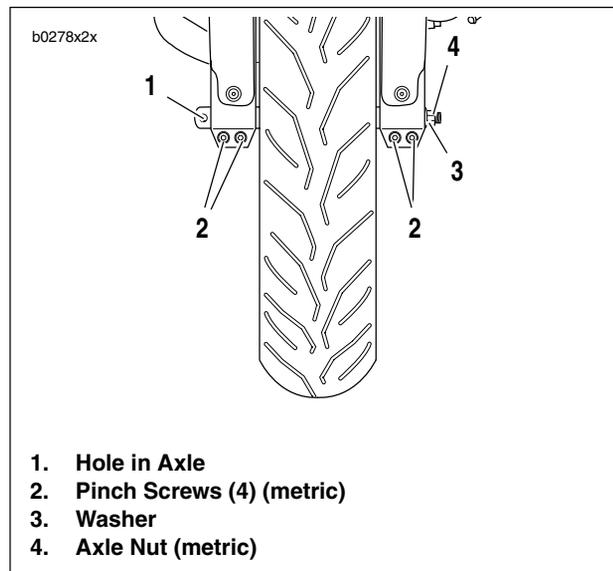
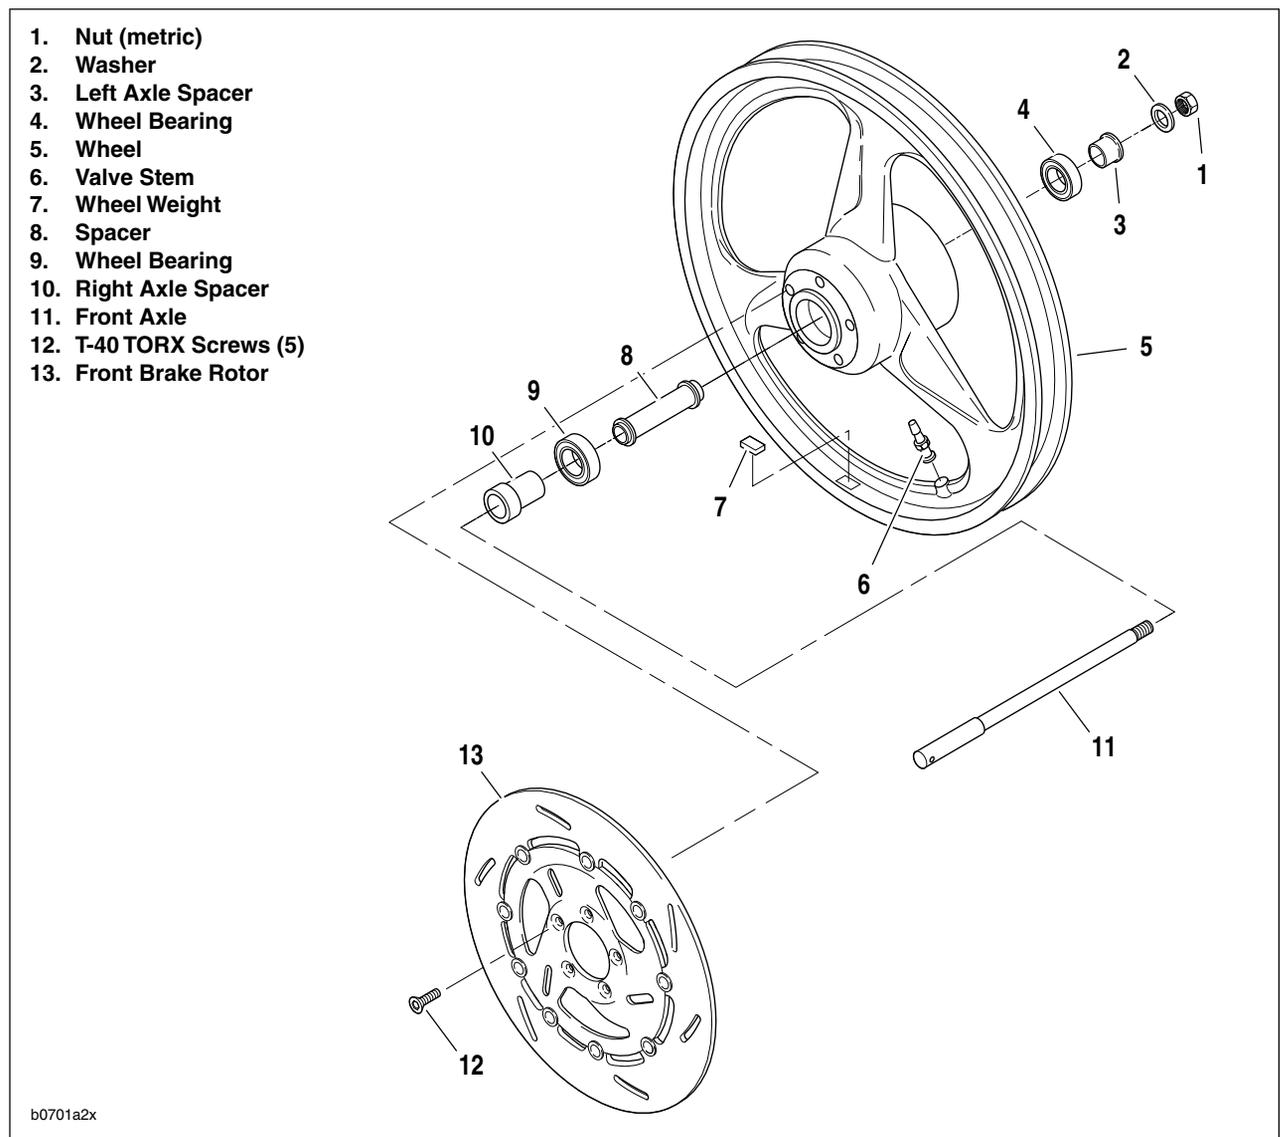

Figure 2-5. Front Wheel Mounting
Figure 2-6. Front Wheel
3. See Figure 2-5. Insert screwdriver/rod through hole in axle (1). Loosen front axle nut (4) (metric).
4. Loosen all four pinch screws (2) (metric).
5. Remove front axle nut (4) and washer (3). Pull front axle out of wheel hub while supporting front wheel.
6. See Figure 2-6. Remove spacer (3) from left side of wheel hub. Remove front wheel.
1. See Figure 2-6. Move wheel to bench area. On brake rotor side of wheel, remove right axle spacer (10).
3. See Figure 2-5. Remove five T-40 TORX screws (12) to detach front brake rotor (13) from wheel hub. Discard T-40 TORX screws.
1. See Figure 2-6. Install spacer (8).
3. On the side of the wheel opposite the brake rotor insert left axle spacer (3) into hub until it seats in bore. Spacer sleeve must not be cocked or tilted in bore.
4. On the right side of the wheel insert right axle spacer (10) into hub until it seats in bore. Spacer sleeve must not be cocked or tilted in bore.
8. See Figure 2-6. Install front brake rotor (13) on right side of wheel. Slots in carrier must line up with wheel spokes.
- b. Apply **LOCTITE THREADLOCKER 243** (blue) to threads of **new** T-40 TORX screws (12).
- c. Install rotor (13) on wheel hub using five **new** T-40 TORX screws (12). Tighten TORX screws in criss-cross pattern to 20-22 ft-lbs (27-30 Nm).
3. Install axle nut (4).
- b. Install washer (3) and axle nut (4) (metric) over threaded end of axle.
- c. See Figure 2-5. Insert screwdriver or steel rod through hole (1) in axle.
- d. While holding axle stationary, tighten axle nut (4) (metric) to 48-53 ft-lbs (65-72 Nm).
4. Tighten the four front axle pinch screws (2) (metric) to 13-15 ft-lbs (18-20 Nm).